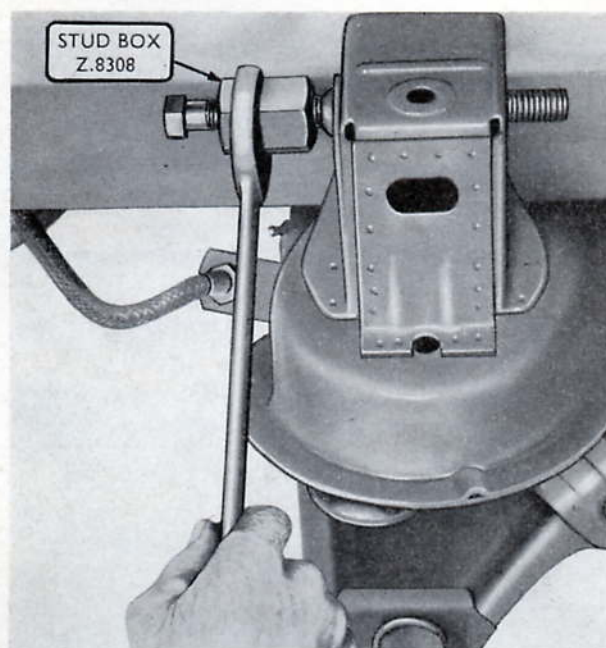

Fig. K.27. Removing the upper arm fulcrum shaft
- (a) Assemble the stud box (Fig. K.27), to the rear end of the fulcrum shaft and unscrew the shaft clockwise. Remove the stud box and withdraw the shaft from the front of the crossmember.